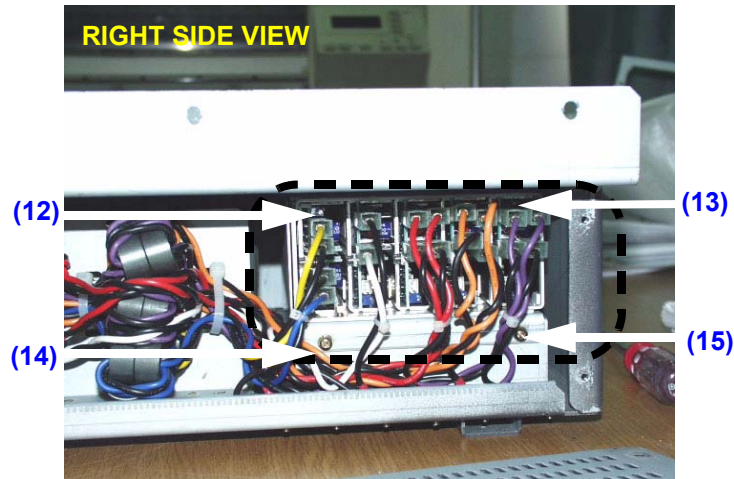

Figure 8-47 Unscrew 4 screws and disconnect 20 connectors
- 4.) Unscrew four (4) screws (12-15) and disconnect twenty (20) connectors from the front side of the LV unit using long-nose gripper. Refer to Figure 8-47 on page 8-102 .